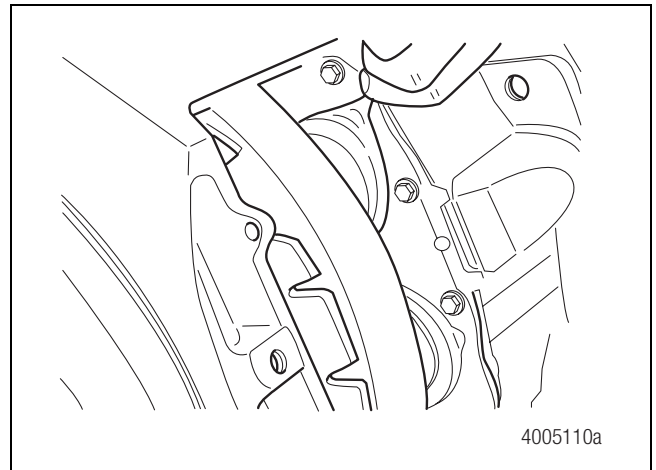

Figure 5.16
13. Use a 10 mm wrench to rotate the manual adjuster stem COUNTERCLOCKWISE and deadadjust the piston assemblies. With the brake fully deadadjusted, it may be necessary to lift the piston boot tab and release air that may be inflating the boot. Figure 5.16.